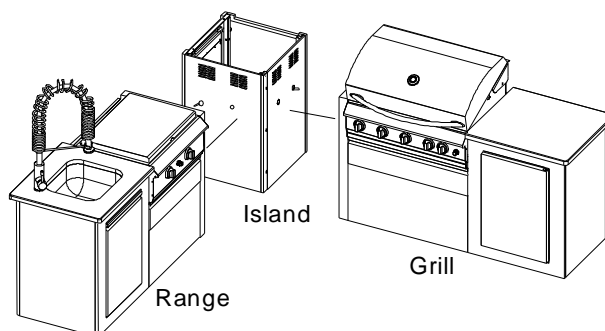

Fig. 4
- ☐ Align the 3 individual modules closely as shown in Figure 4 then proceed to Step 4 to attach the Regulator with Hose.